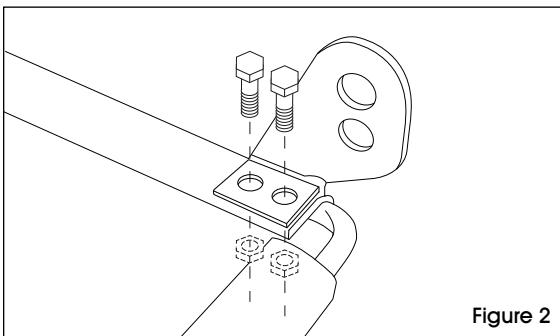

Figure 2
4. Secure bracket to hopper lip using two bolts and two lock nuts. (See Figure 2)